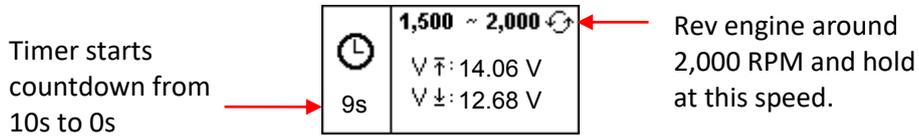
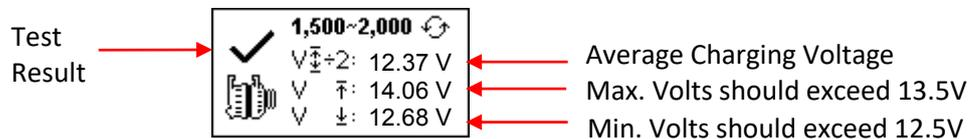
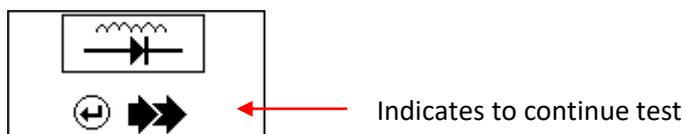

Fig. 46
Fig. 47
Fig.50
9. Press  key to continue and display will show. (See Fig. 46).
10. Then rev the engine to around 2,000 RPM and hold at this speed, the timer shown on the display (Fig. 46) will start to countdown from 10s to 0s. As soon as it reaches zero second, the results will automatically display as example shown below (Fig.47).
12. Continue from the previous test (either Fig. 47, 48 or 49); the display automatically switched to [Diode Ripple Test] as shown in Fig.50 below after 5 seconds to proceed the test.